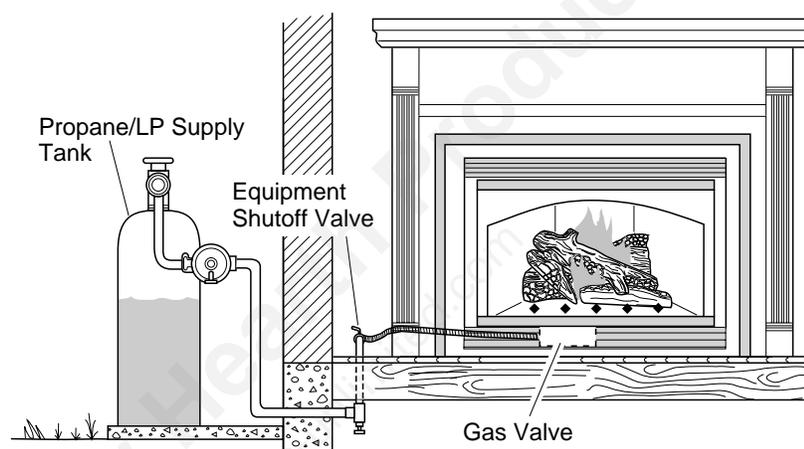
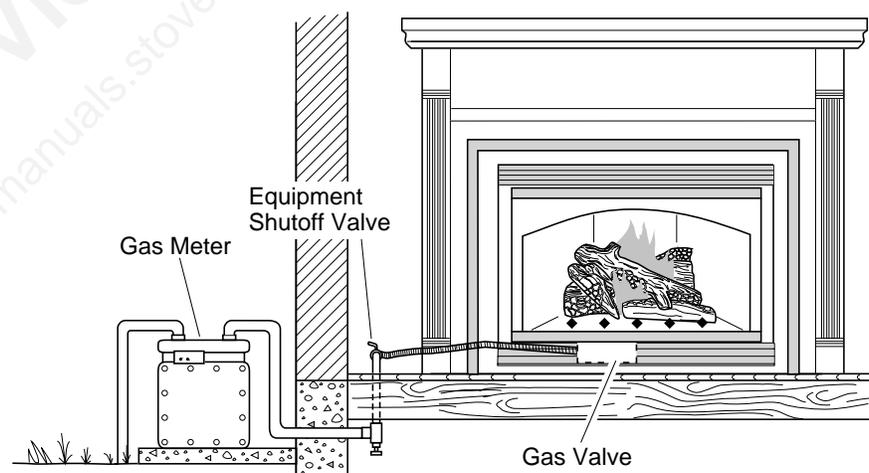

Figure 44 - Checking Gas Joints for Propane/LP Gas Fireplace
Figure 45 - Checking Gas Joints for Natural Gas Fireplace
3. Check all joints from propane/LP supply tank or gas meter to equipment shutoff valve (see Figure 44 for propane/LP or Figure 45 for natural). Apply commercial leak test solution to all gas joints. Bubbles forming show a leak. Correct all leaks at once.
4. Check all joints from equipment shutoff valve to thermostat gas valve (see Figure 44 for propane/LP or Figure 45 for natural). Apply commercial leak test solution to all gas joints. Bubbles forming show a leak. Correct all leaks at once.